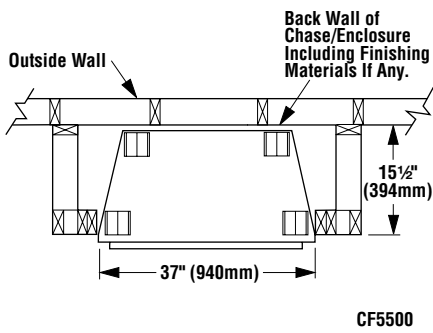
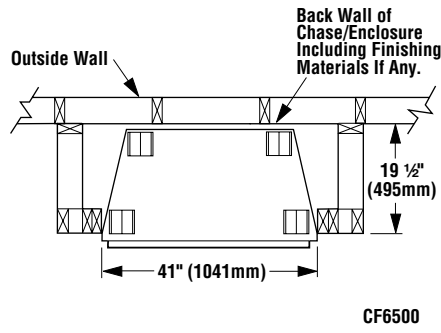

Figure 4
Figure 7
Step 1. Frame CF5500 appliance enclosures as illustrated in *Figures 4, 5 and 6*. Frame CF6500 appliance enclosures as illustrated in *Figures 7, 8 and 9*.
Note: Framing dimensions in Figures 4 - 9 are calculated for a nailing flange depth of 1/2" (13 mm).